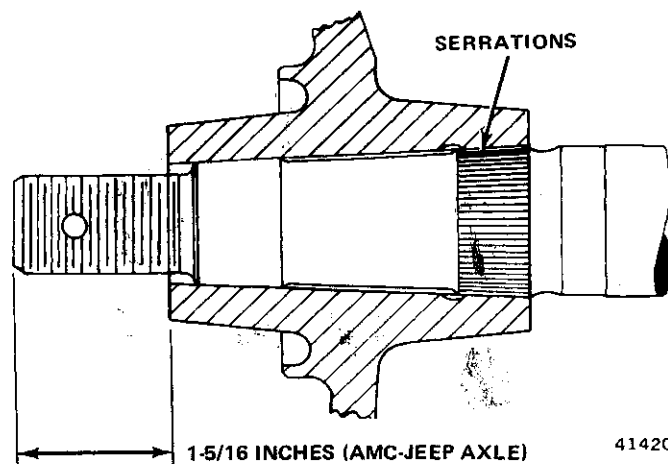

Fig. 2F-19 Replacement Hub Installation Measurement—AMC/Jeep Axle
- (1) Align keyway in hub with axle shaft key.
- (2) Lubricate two thrust washers with liberal amount of chassis grease and install washers on axle shaft.
- (3) Install axle shaft nut.
- (4) Install drum, drum retaining screws, and road wheel.
- (5) Lower vehicle onto wheels. Tighten axle shaft nut until distance from hub outer face to axle shaft outer end is 1-5/16 inches (33.3 mm) (fig. 2F-19).
- (6) Remove axle shaft nut and one thrust washer.
- (7) Install axle shaft nut and tighten to 250 foot-pounds (339 N•m) torque. If cotter pin hole is not aligned, tighten nut to next castellation and install cotter pin. Do not loosen nut to align cotter pin hole.